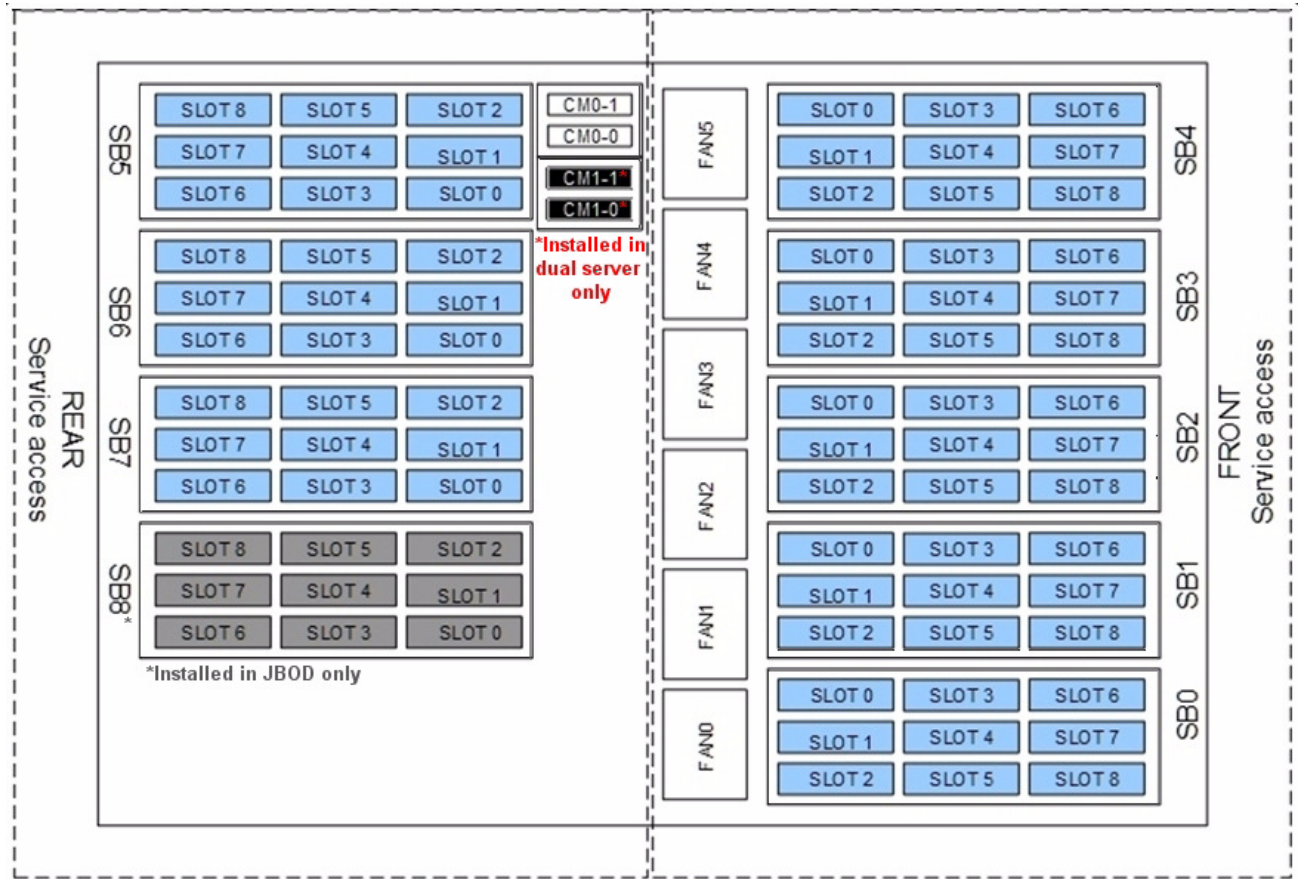

Figure 1-25 System Layout Diagram – Drive & Fan Placement
4. Place the corresponding drive into its drive slot (a system layout diagram, Figure 1-25, is also provided on the inside of one of the top chassis covers). Press the drive firmly into the StorBrick. You will know the drive is in place when the latch on the top of the drive carrier snaps into place.